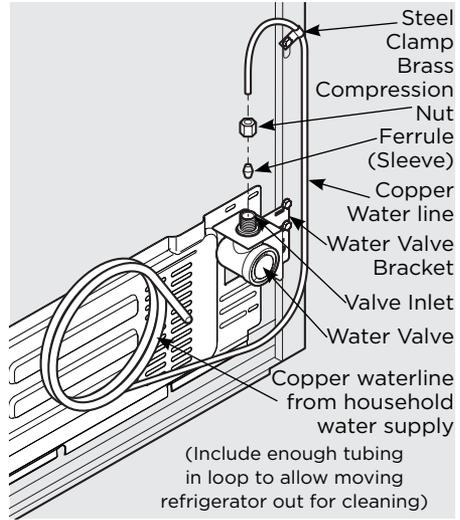

Figure 1
4. **If you use copper tubing** - Slide brass compression nut, then ferrule (sleeve) onto water supply line. Push water supply line into water valve inlet as far as it will go ( $\frac{1}{4}$  inch/6.4 mm). Slide ferrule (sleeve) into valve inlet and finger tighten compression nut onto valve. Tighten another half turn with a wrench; DO NOT over tighten. See Figure 1.